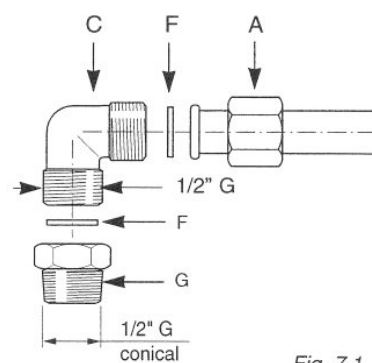

Fig. 7.1
The cook top connection (fig. 7.1 a - 7.1 b) is made up as follows:
- Gaskets F (Fig. 7.1) guarantee the seal of the gas connection.